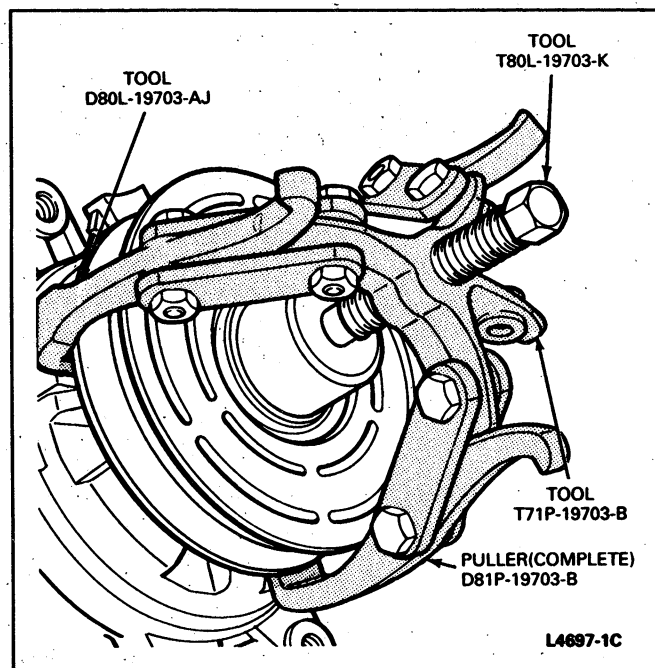

FIG. 7 Clutch Pulley—Removal
4. Pull the pulley and bearing assembly from the compressor. If the pulley and bearing assembly cannot be removed by hand, use Compressor Shaft Protector T80L-19703-G and Pulley Puller D81P-19703-B or equivalent, to remove pulley (Fig. 7).